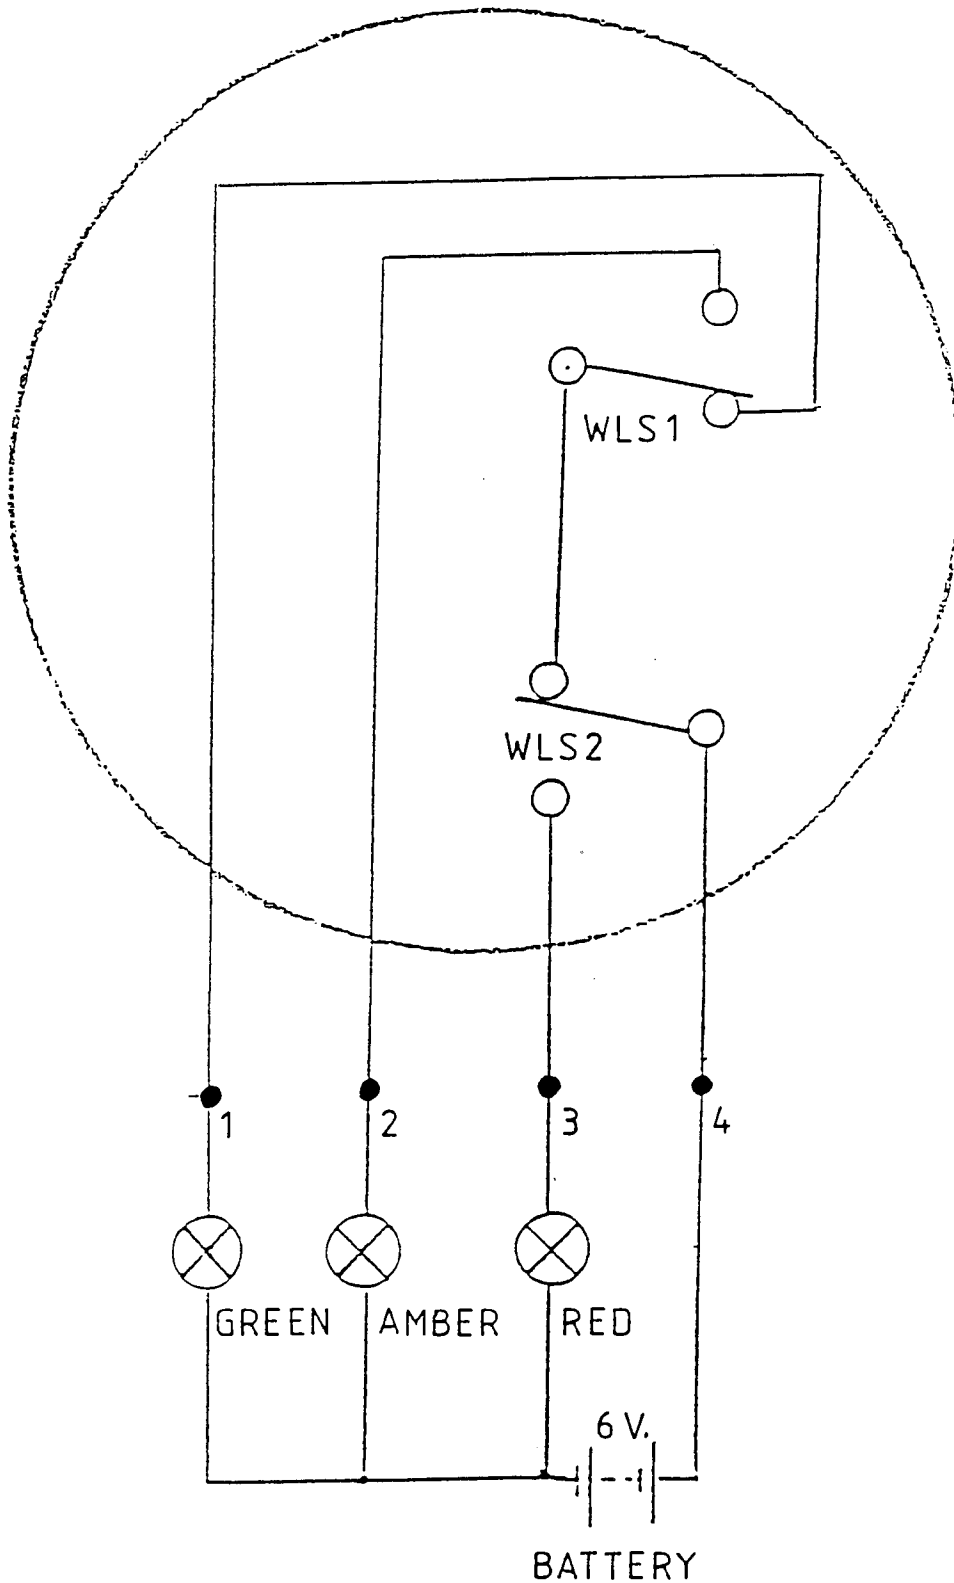

Figure 9. Test Circuit - M32 Units
- 1.8 Set up a test circuit as per Figure 9, and switch on.